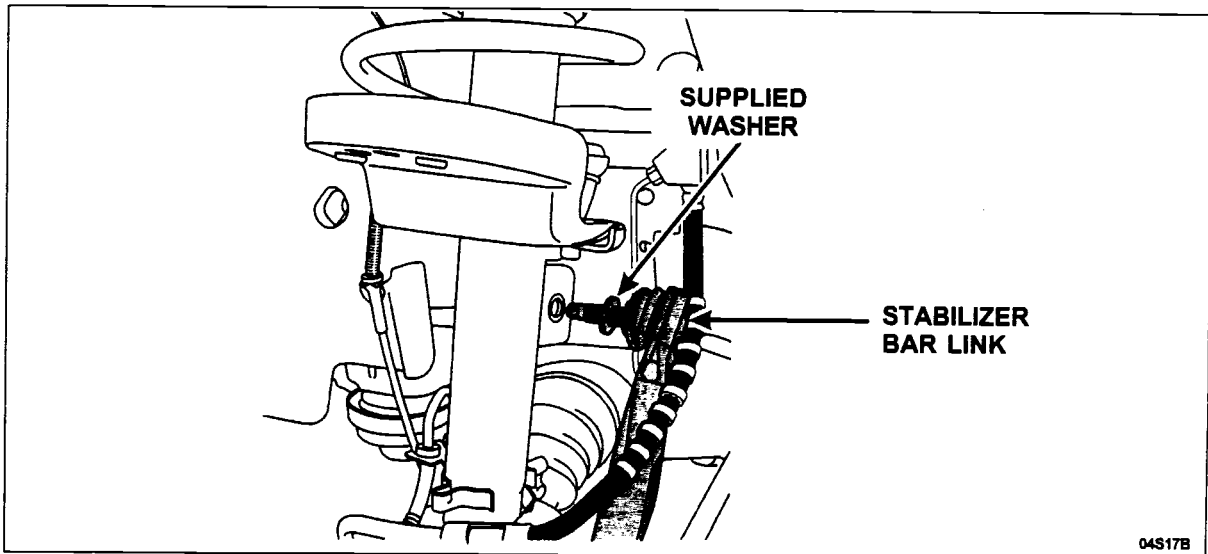

FIGURE 2
- b) Before installing the stabilizer bar link, place the supplied washer over the stabilizer bar link stud. See Figure 2.